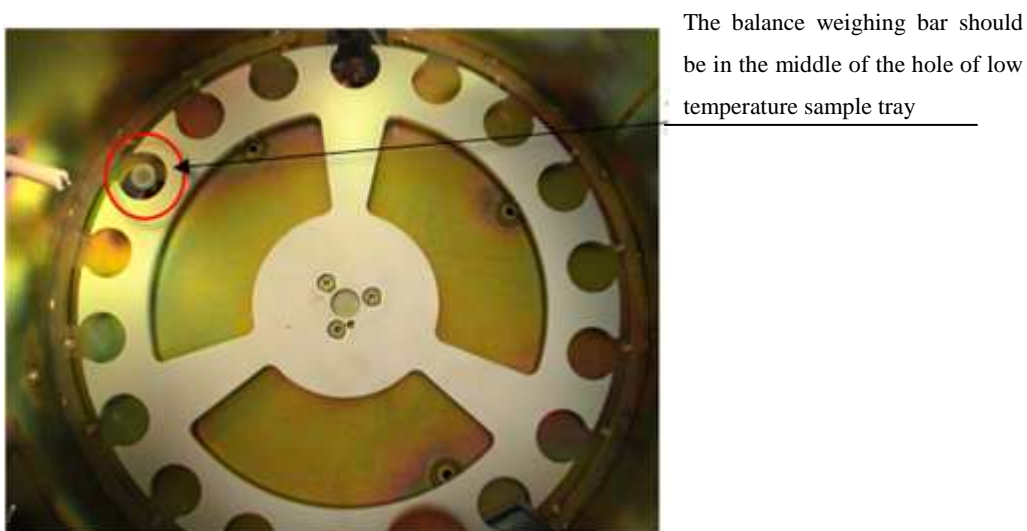

Fig.3-24
- 7) Adjust the all-around position of the low-temperature furnace balance to make the sample bar right under the sample holes. Shown as fig.3-24.